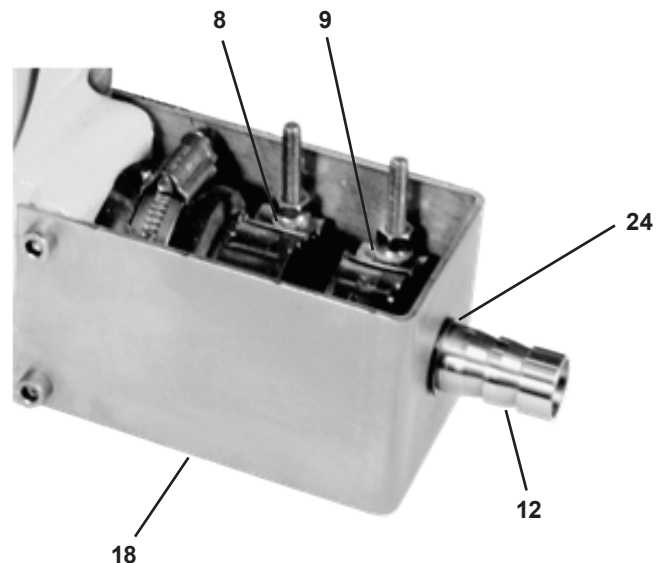

Figure 2
3. Loosen clamps (8) and (9) at suction inlet. Remove circlips (24) and remove bracket (18) and insert (12). See Figure 2.